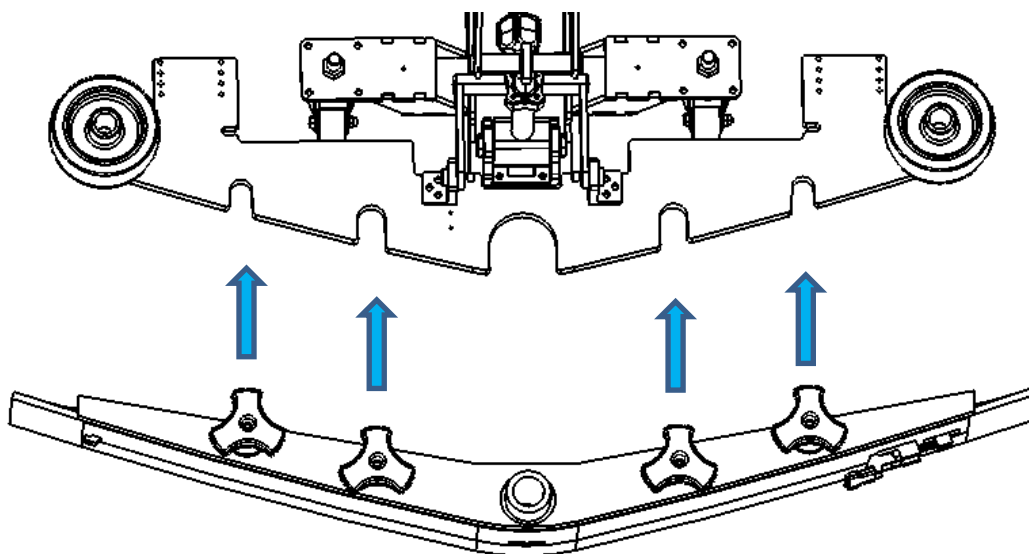

Fig. 2
2. Slide the squeegee assembly onto the mounting plate (Fig. 2).